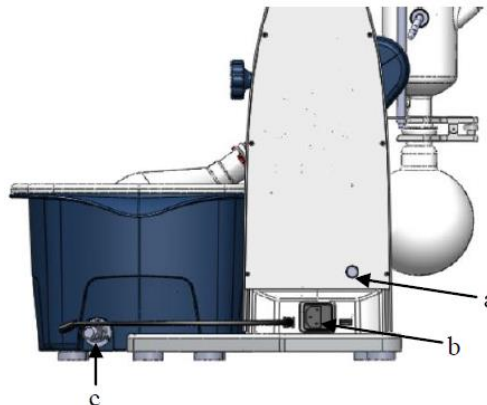

Figure 7
**CAUTION !** Loosen transportation lock (Figure 7).